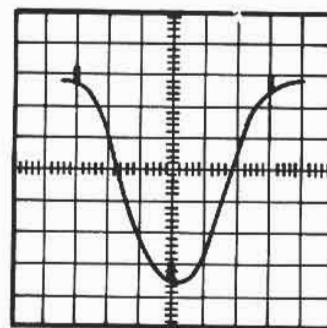

Fig. 14
3. Adjust the core of IFT T102 so that output is at max and symmetry wave form as figure 14.